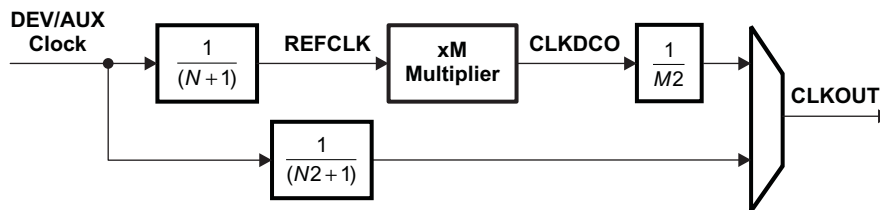
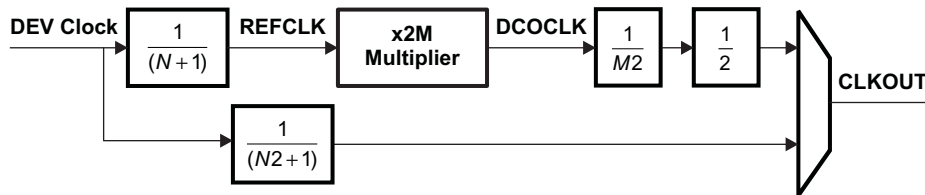

Figure 7-16. Top-Level PLL Simplified Block Diagram
Figure 7-17. PLL\_ARM Simplified Block Diagram
The device contains 12 top-level PLLs, and 4 embedded PLLs (within the ARM Cortex-A8, PCIE, SATA, and CSI) that provide clocks to different parts of the system. Figure 7-16 and Figure 7-17 show simplified block diagrams of the Top-Level PLL and PLL\_ARM. In addition, see the System Clocking Overview (Figure 7-6) for a high-level view of the device clock architecture including the PLL reference clock sources and connections.
(1) This parameter describes the limits on the programmable multiplier value M. The multiplication factor for the PLL\_ARM is equal to 2 \* M (also see Figure 7-17).
(2) The PLL Multiplier supports fractional values (up to 18-bits of fraction) except when the PLL Multiplier is < 20 OR > 2045.